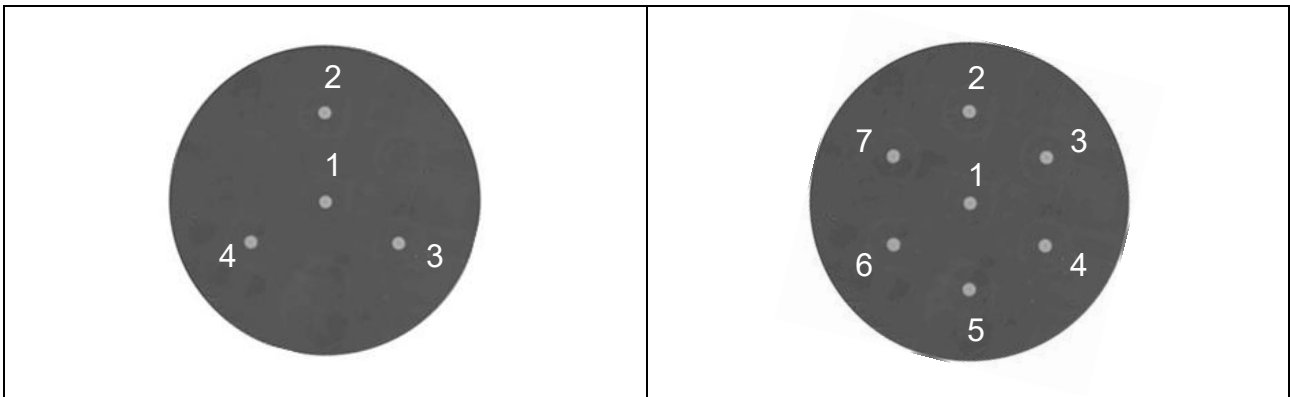

Figure 1: Cross section of the 4 and 7 core fibers.
- **Core configuration:** 4 or 7 cores, see Figure 1. Notice the standard FBGS numbering convention of the cores: the central core is always number 1 from the fanout box. Core 2 is the one on the 12 o'clock position and the other cores are numbered in ascending order in clockwise direction. (The direction of looking is towards the fiber from the connector side. The lid of the E2000 connector determines the 12 o'clock position.) The central core is not required for curvature and shape sensing. Therefore, it does not need to be connected to the interrogator. The **outer cores** carry in principle all curvature information of the MCF.